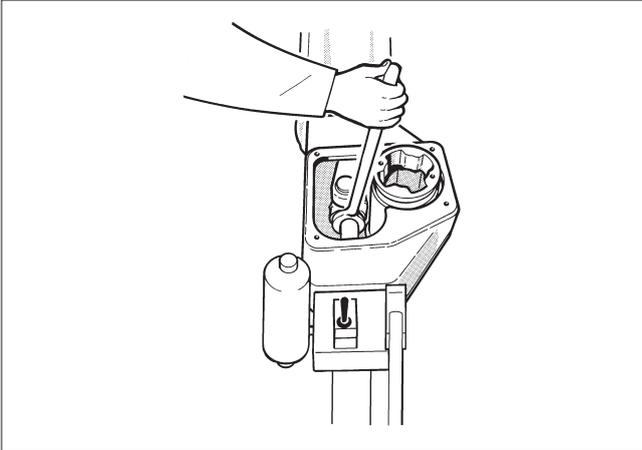

Fig. 16 Removing hydraulic cylinder piston rod
- Remove housing cover (2).
- Turn hydraulic cylinder piston rod (75) off bearing unit and detach cylinder mounting screws (31) from cylinder base (6) side. If the piston (9) turns along with the piston rod (75), remove cylinder end (44) and prevent turning with the piston attachment screw (28), see Fig. 16.
- Turn open the hydraulic cylinder piston rod (75) holding the bearing unit (5), see Fig. 16.